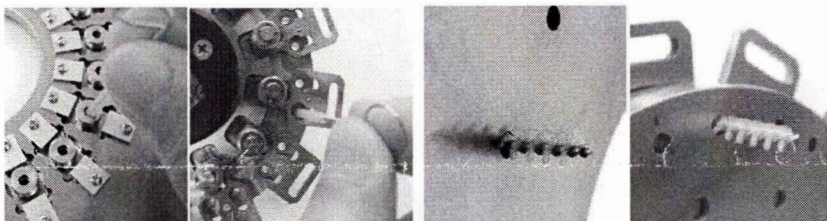

Fig.1 Insertion of the brush 1
- ① Insert the brush into the hole from upper side of the holder. (See Fig. 1)